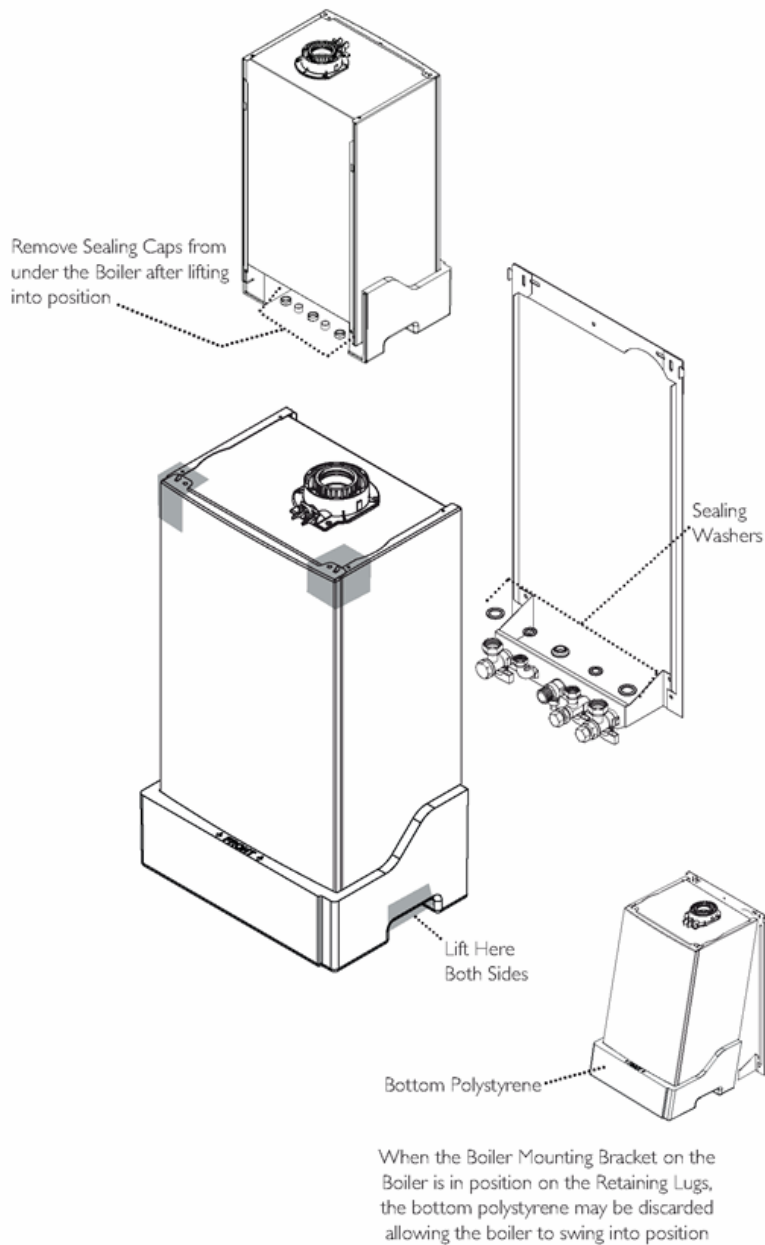

Fig. 21
9.3 Fitting The Boiler (Fig. 21)